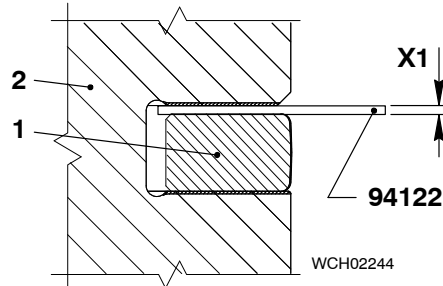

Fig. 6
- 1) Measure the thickness of the piece of piston ring (1, Fig. 6).